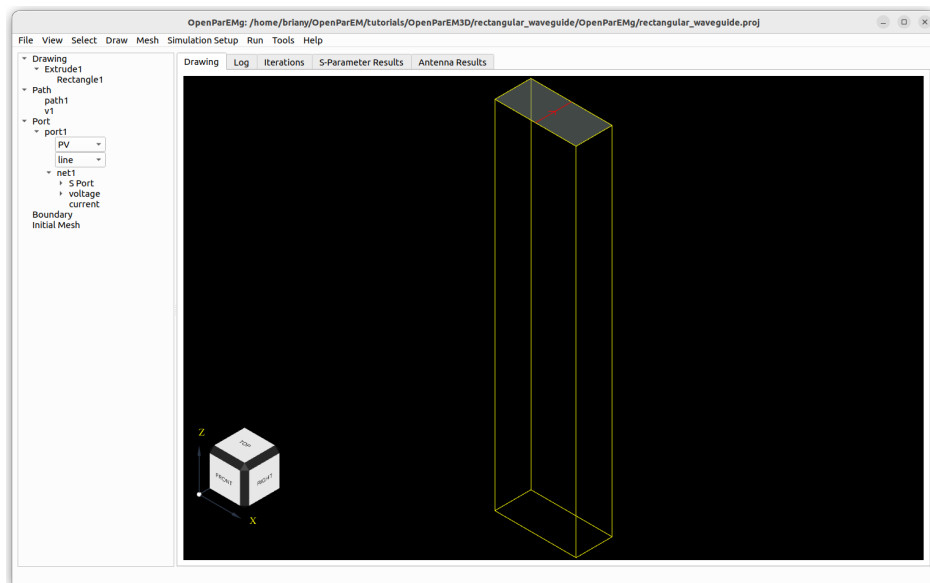

Figure 2: Screen shot of the 100 mm long rectangular waveguide with port 1 added.
- On the gray area of the new port, click in the center of one long edge then the center of the other long edge to create an integration path for the voltage. The characteristic impedance calculation is automatically set to **PV**. The new port should look like that in Fig. 2.